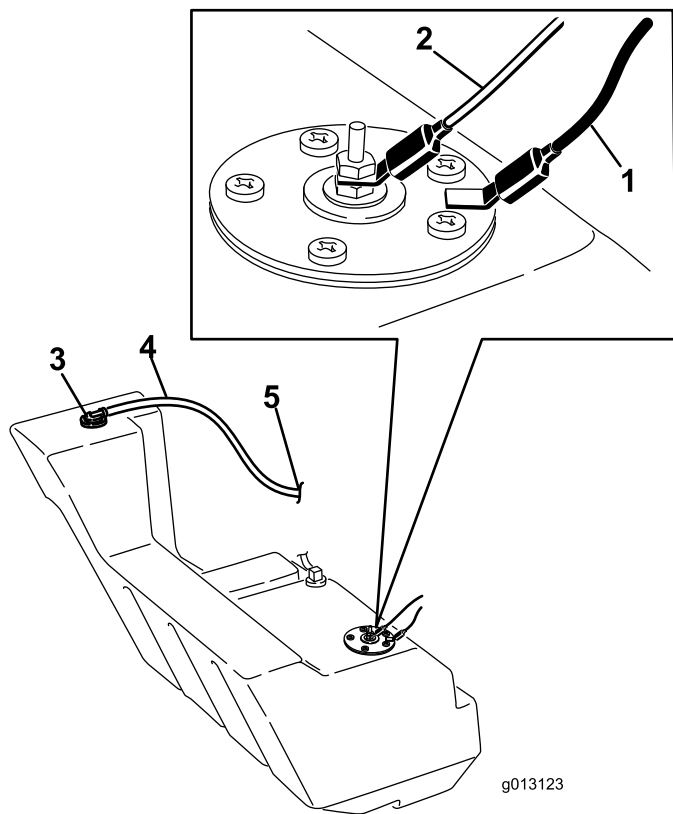

Figure 58
11. Disconnect the two wires leading to the right side of the tank (Figure 58).
20. On the right side of the tank, connect the orange wire to the center post and the black wire to the outside post (Figure 58).